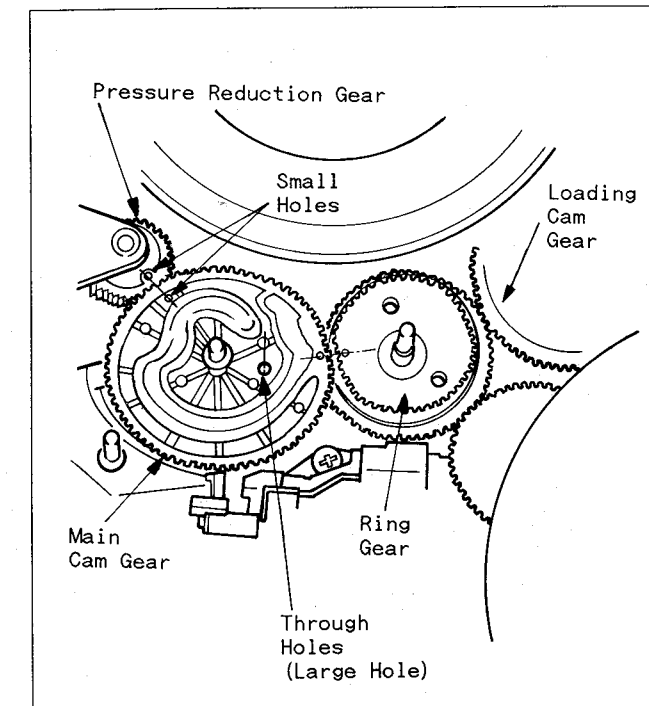

Fig. A4
2. Install the Main Cam Gear onto the Sub Cam Gear so that the small hole on Main Cam Gear is exactly in line with the small hole on Pressure Reduction Gear. And the large hole on Main Cam Gear is in line with the large hole on Sub Cam Gear as shown in Fig. A4.